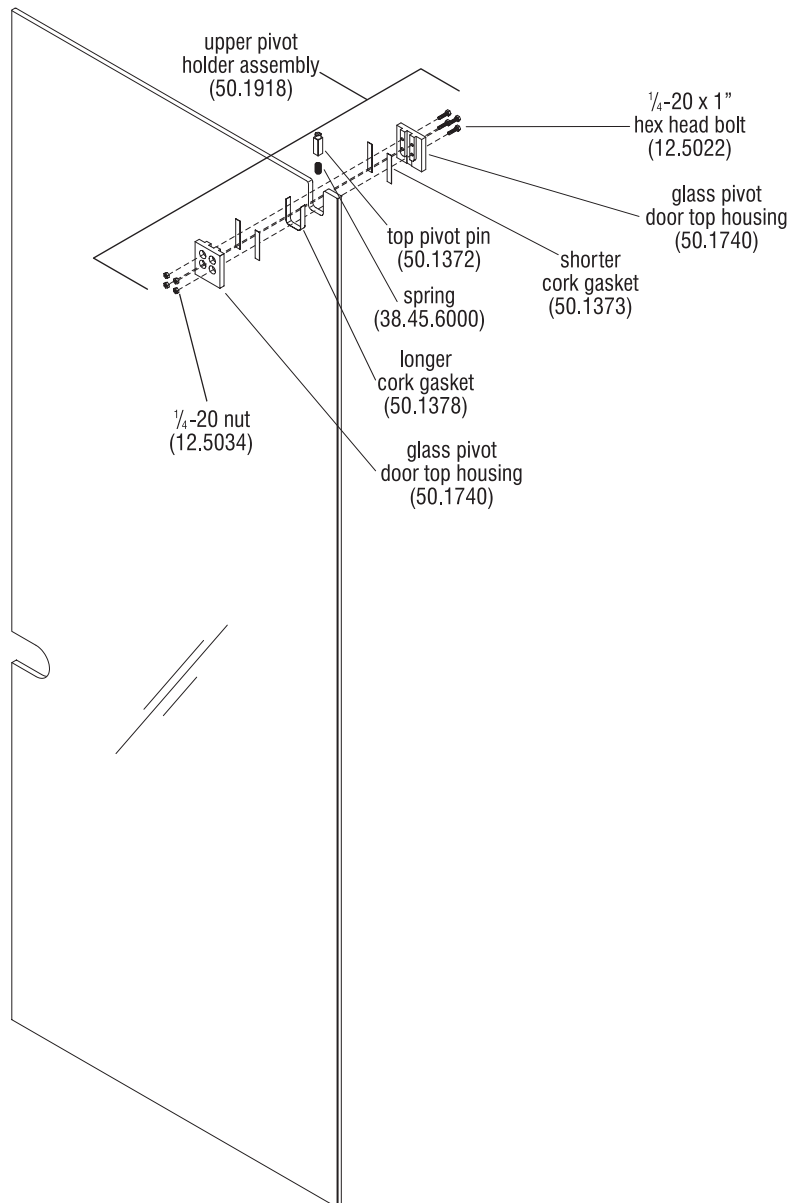

Figure 1
1. To prepare the pivot door leaf, begin by attaching the upper pivot holder assembly (50.1918). Apply longer cork gasket (50.1378) around the perimeter of the notch in the top of the door leaf (Figure 1).
2. Apply two pieces of shorter cork gasket (50.1373) to the inside of one half of the glass pivot door top housing (50.1740) (Figure 1). Repeat this step for the other half.